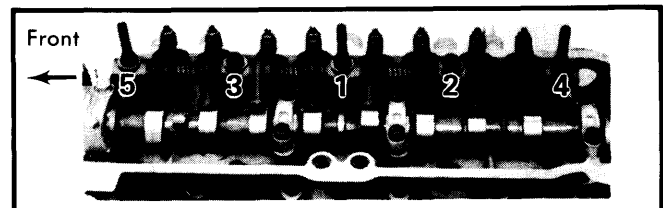

Fig. 1 Rocker Arm Tightening Sequence
4) Loosen rocker arm support bolts in 3 or 4 steps and in sequence shown in Fig. 1. Remove rocker arm assembly and camshaft timing sprocket. Remove camshaft bearing caps in same general sequence as rocker arm supports and arrange in order.
Removal – 1) Remove air cleaner and rocker arm cover. Remove front cover assembly and timing belt. See TIMING BELT. Loosen rocker arm support bolts in 3 to 4 steps and in reverse order of sequence shown in Fig. 1. Remove rocker arm assembly.
Removal – 1) Remove air cleaner and rocker arm cover. Loosen rocker arm support bolts in 3 to 4 steps and in reverse order of sequence shown in Fig. 1. Remove rocker arm assembly.
Installation – To install, reverse removal procedure. Tighten rocker arm support bolts in 3 to 4 steps and in sequence shown in Fig. 1.